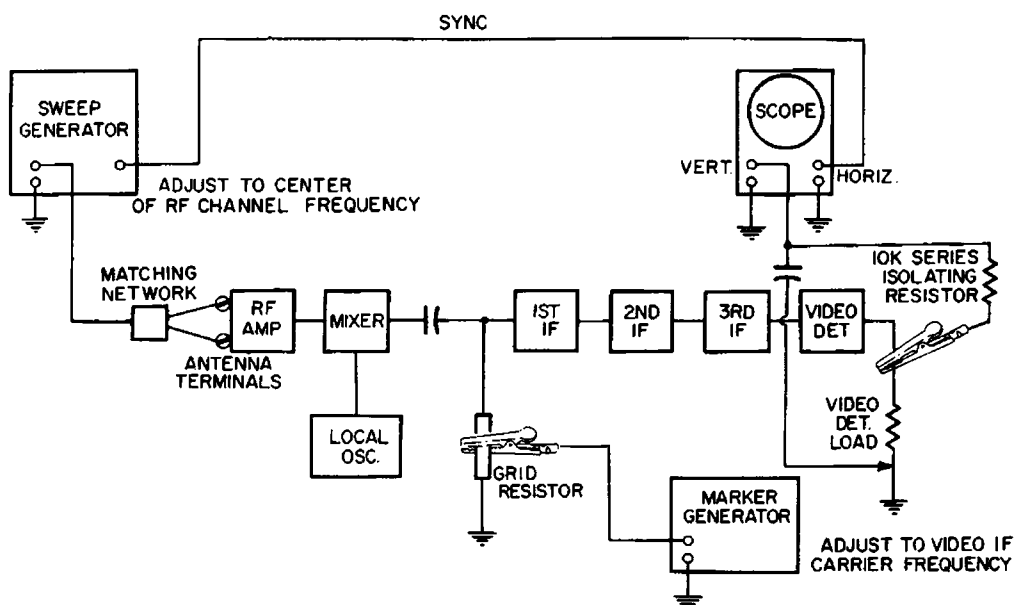

Fig. 5-5. Method of connecting equipment for checking RF-IF response.
1. Interconnect the alignment equipment as illustrated in Fig. 5-5, using the proper matching networks and an isolating resistor of approximately 10K in series with the scope's vertical-input lead, shunted by a 330-mmf capaci-
1. Set up the equipment as in video-IF alignment. (See Fig. 5-5.)